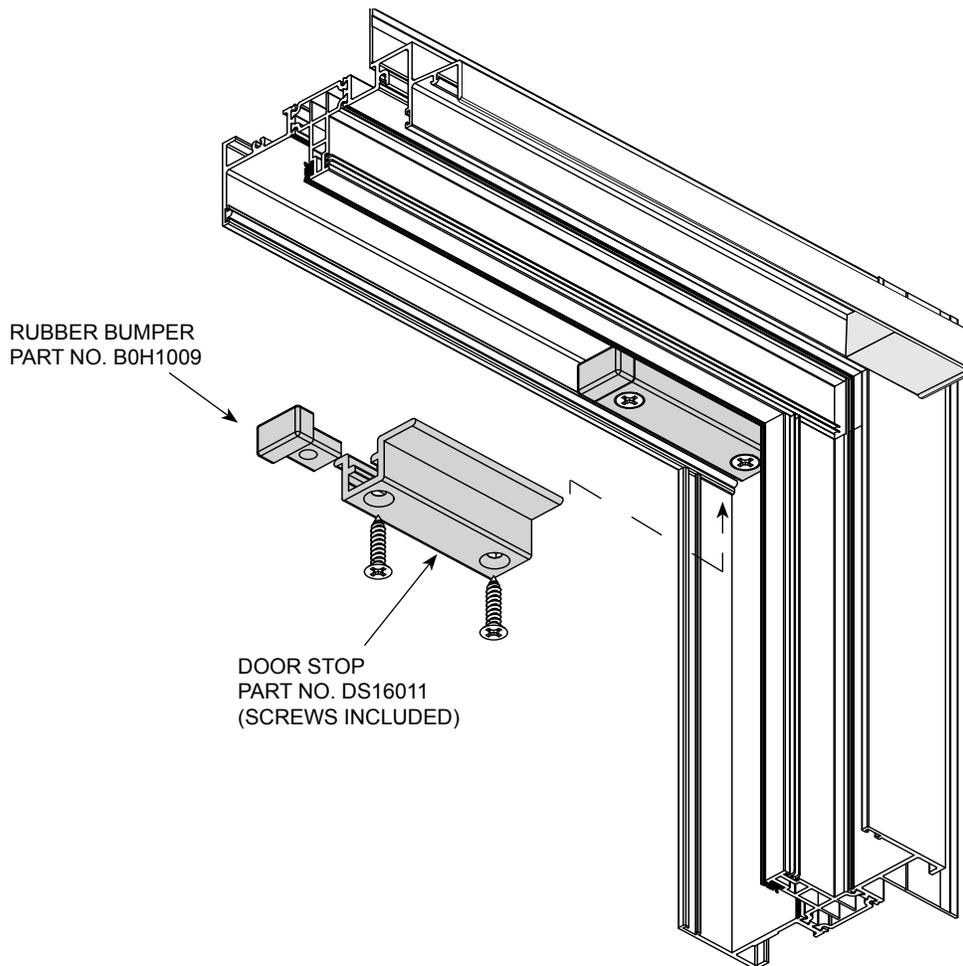

FIG. 40
1. Insert Bumper Stop Bracket into the head channel touching the jamb. (FIG. 40)
4. Refer to instructions to install bumper. (FIG. 40)